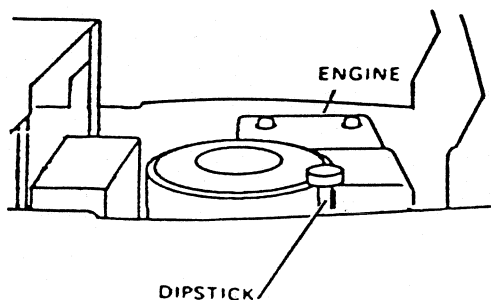

FIGURE 15
- If distance is other than 3,8 cm (1.5 inches) loosen Jam Nut (Fig.15) and turn Nut "A" until distance becomes 3,8 cm (1.5 inches). Retighten Jam Nut against Nut"A".
Several minutes after stopping engine, check engine oil level with tractor on level ground. Wipe dipstick (Fig. 15) clean, screw it down tight for a few seconds, remove and read oil level. If necessary, add oil until "FULL" mark is reached. (See chart above). NOTE: DO NOT OVERFILL.